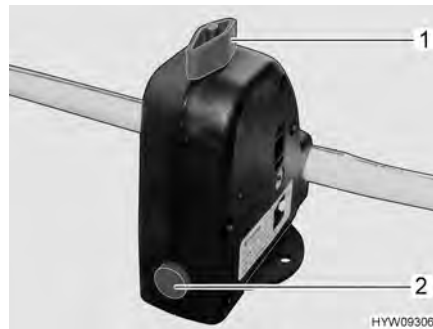

Fig. 95 Safety/drainage valve (Truma)
- Close the safety/drainage valve (Fig. 95). Turn the knob (Fig. 95,1) perpendicular to the safety/drainage valve and push the push button (Fig. 95,2) in. If the temperature is below 6 °C, the safety/drainage valve cannot be closed.